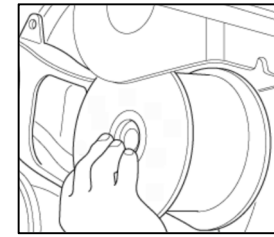

Fig. 21
10. Refit trailing arm on hanger bracket (Fig. 21) and insert new pivot bolts.